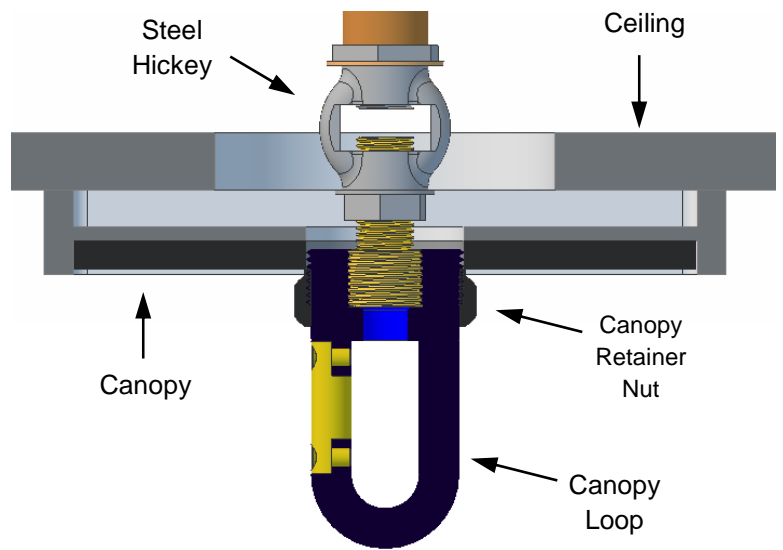

Figure 2
Step 4: Attach the (2) Canopies over the Steel Hickeys. The Canopy Retainer Nut unscrews to attach Power Wires to Fixture and to hold the Canopies in place. Note placement of Hardware to attach the Canopy Loops. Remove the Canopy Loop Strap and Screws. Figures 2 & 3